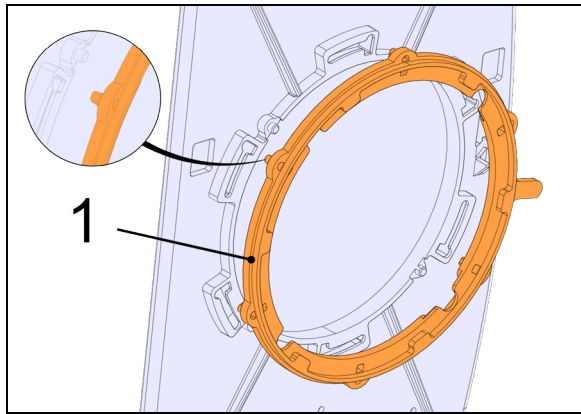

FIGURE 106: (1) LOCK RING
6. Install the lock ring on the new glass mirror (item 1, Figure 106).